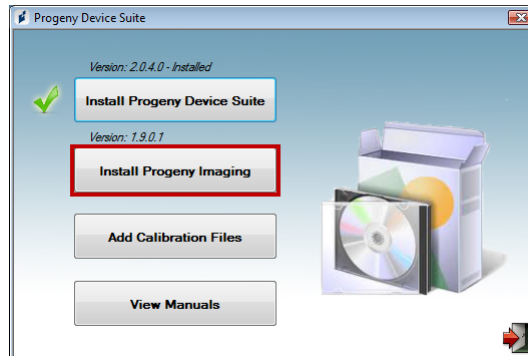

Figure 4: Starting the Progeny Imaging installation
- A green check mark next to the 'Install Progeny Device Suite' button will appear when Progeny Device Suite installation is completed. Continue by installing Progeny Imaging software by clicking on 'Install Progeny Imaging' button (Figure 4) and follow the prompts on the screen to perform the installation.